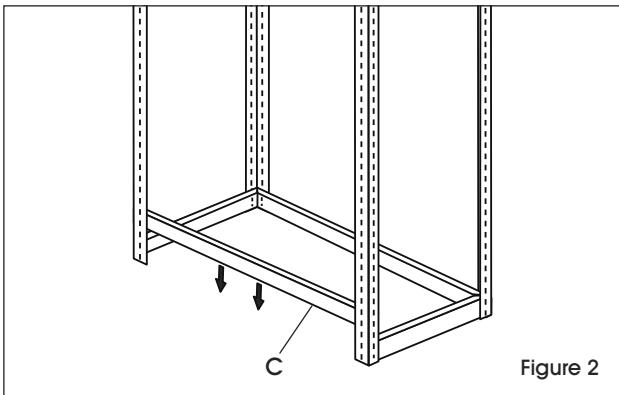

Figure 2
2. Connect the two upright post assemblies by inserting single flange front/back supports (C) at the bottom of the upright posts. (See Figure 2)